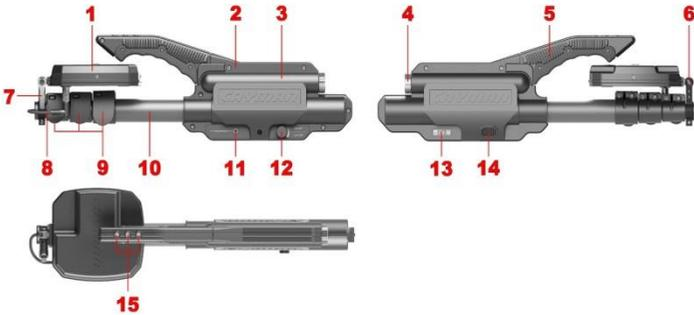
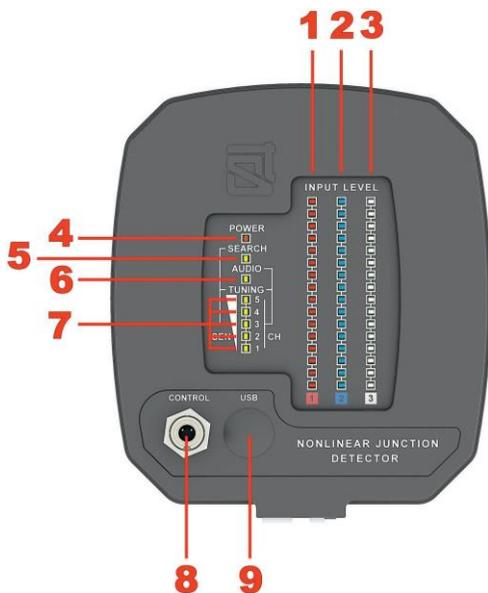

Fig. 2
Fig. 4
ST 400 Cayman consists of the main unit and antenna module. They are connected with a telescopic arm. The main constituents are shown in Fig. 2.
On the side of the antenna module facing the operator (Fig. 4), there is an indicator panel, a socket for connecting a control / power cable and a USB connector for connecting a PC
The numbers in Fig. 4:
The main unit is assembled in a sturdy plastic case (2, Fig. 2). In the upper part of the main unit body there is a handle (5, Fig. 2) with three control buttons (15, Fig. 2). Inside the main unit case there is a battery compartment (3, Fig. 2) for two batteries (type 18650). The battery compartment is closed with a metal cover (4, Fig. 2). On the left side of the case there is a headphone jack (11, Fig. 2) and a power switch / volume control (12, Fig. 2). On the right side of the case there is a shield with information about the device name, serial number and manufacturer (13, Fig. 2) and the internal speaker (14, Fig. 2). The electronic control unit of the device is located inside the housing.
The four-section telescopic arm is designed to bring the antenna module closer to the tested object. With the help of eccentric clamps (9, Fig. 2), you can set the required rod length. The telescopic bar is rigidly attached to the supporting structure inside the main unit. The front part of the telescopic arm is equipped with a bracket for attaching the antenna module (6, Fig. 2).
The antenna module is fixed in the required position using a lever handle (7, Fig. 2).
5. Make sure that the power switch knob (12, Fig. 2) is in the extreme left position (off).
6. Connect the power/control cable connector (8, Fig. 2) to the socket of the antenna module (8, Fig. 4).
After turning on the ST 400, periodic spontaneous illumination of one or more segments of the signal level indicators is possible (Figure 4, pos. 1-3). This indicates the need to adapt the ST 400 to the current electromagnetic environment.
The SEARCH indicator on the antenna module panel goes out (Figure 4, item 5) and the AUDIO indicator lights up (6, Fig. 4).